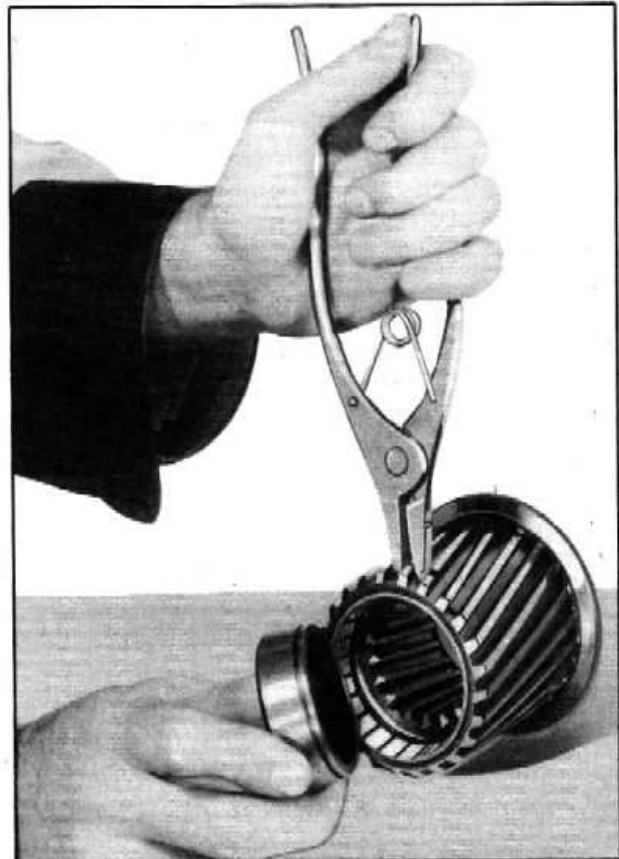

Fig. 9—Removing Synchronizing Ring from Second and Third-Speed Clutch
- Using special pliers, J-932, expand the retainer into the counterbore in the clutch sleeve. This raises the retainer from the groove in the ring, and the ring may easily be slipped out, Fig. 9.
- With the special pliers, J-932, expand the retainer, at the same time holding it flush with the back face of the cone. Install the synchronizer rings making sure that the retainers seat in the groove all the way around the rings, Fig. 9.